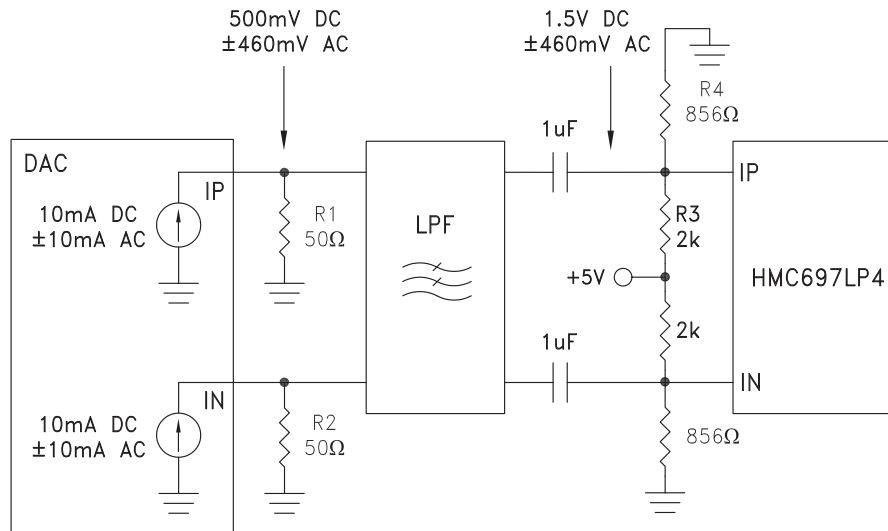

Figure 8. AC-coupled interface with ±1V DAC output compliance range
The DC coupled DAC-modulator interfaces have the advantage of utilizing digital DC offset cancellation features of DACs. However, the passive DC level shifting network attenuates the baseband signal. The AC coupled interface options eliminate this attenuation. Figure 8 shows the AC-coupled interface between the HMC697LP4(E) and a DAC with ±1V output compliance range. The DAC current output range is 0-20mA, and the connection is identical for I and Q ports.